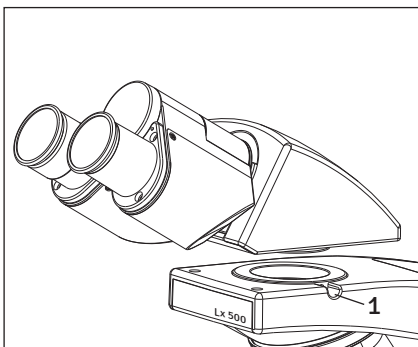

Fig. 8
1. Using allen wrench 3mm (provided), loosen the Head Locking Screw (1) and remove the dust cover cap provided in dovetail cavity as well as on observation head dovetail.
3. Tighten the Head Locking Screw (1) after positioning the Observation head as desired. See figure 8.